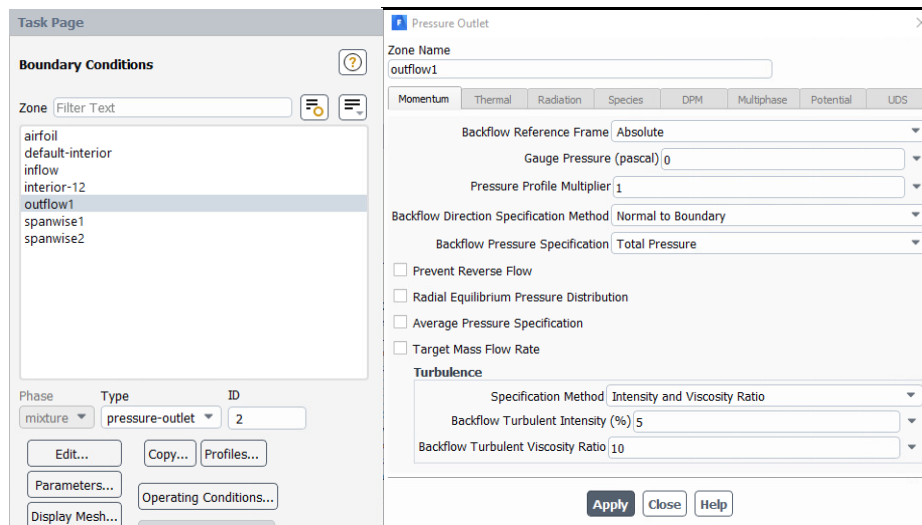

Figure 10. Setting the outlet boundary condition.
2.9.3. In the **Task Page** pane, click on **outflow1**. Make sure the Type is set to “pressure-outlet”. Click on the **Edit...** button. In the **Pressure Outlet** popup window, set the **Gauge Pressure** to 0 Pa (i.e. the pressure will be kept at ambient pressure at the outlet), as shown in Figure 10. Click **Apply** and Close.